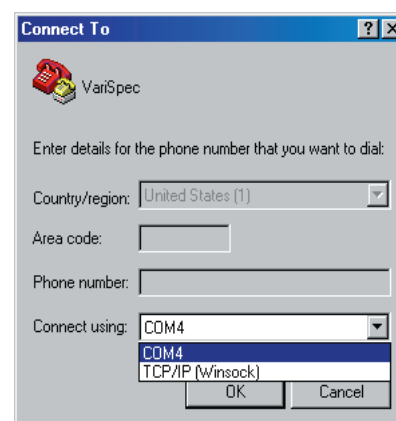

Figure 30. Connect To
4. In the **Connect To** window (Figure 30), choose a COM port that corresponds to the virtual COM port assigned to the filter.